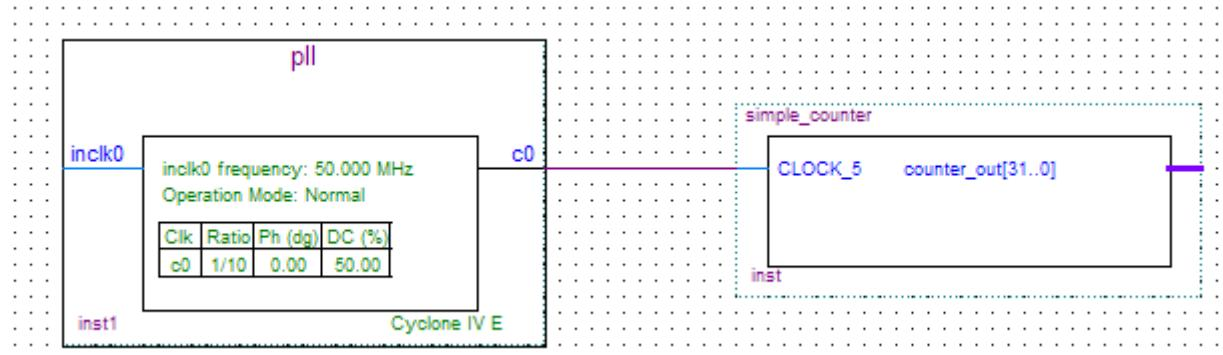

Figure 6-27 Draw a Bus Line connect pll c0 port to simple\_counter CLOCK\_5 port
- Click and drag a bus line from the c0 output to the simple\_counter clock input. This action ties the pll output to the simple\_counter input (see **Figure 6-27**).